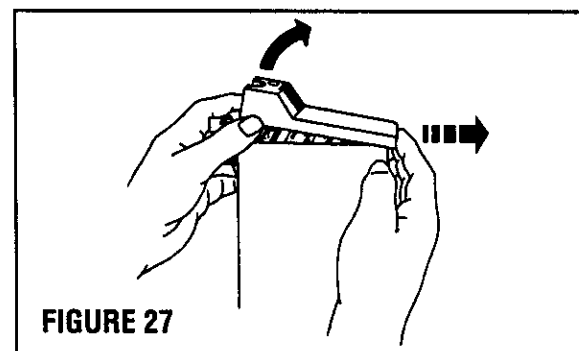

FIGURE 27
3. Pivot the Cap up from the Lock Tab end and slide Cap forward and off the Filter Housing. (Figure 27)